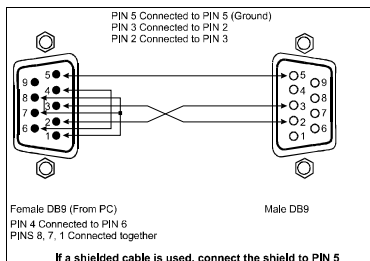

Figure 3: Connecting a PC without using a Null-modem Adapter
- Connect the RS-232 DB9 port on your PC to the RS-232 DB9 rear panel port on the **FC-4046** unit, as Figure 3 illustrates